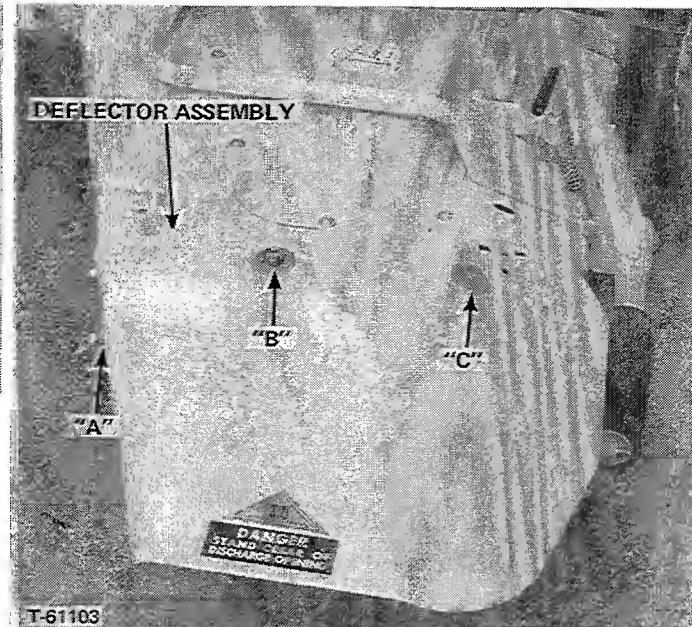

FIGURE 13 - 48" Rotary Mower
4. Bolt the deflector assembly to the discharge end of mower housing as shown in Figure 13. Place notch in front leg of deflector under large flat washer at "A". Install carriage bolts at "B" and "C" with the heads under the mower housing and with a large flat washer and nut above the deflector as shown. Tighten securely.